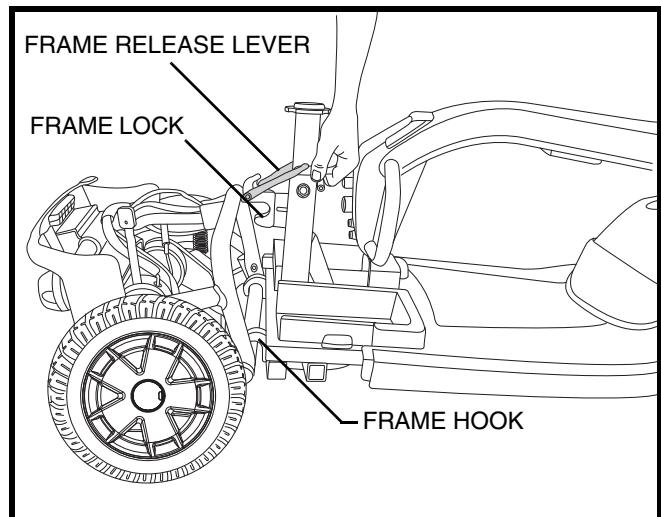

Figure 22. Frame Release
1. Lift up on the frame release lever. See figure 22.
2. Lift the front section up until the frame hooks of the front section separate from the rear section. See figure 22.
NOTE: Stabilise the rear section with your free hand by holding onto the upper frame tube. See figure 22.
3. Slowly separate the two sections. See figure 22.
3. Once the frame hooks are over the lower frame tube, lower the front section completely. This will engage the frame lock. See figure 22.